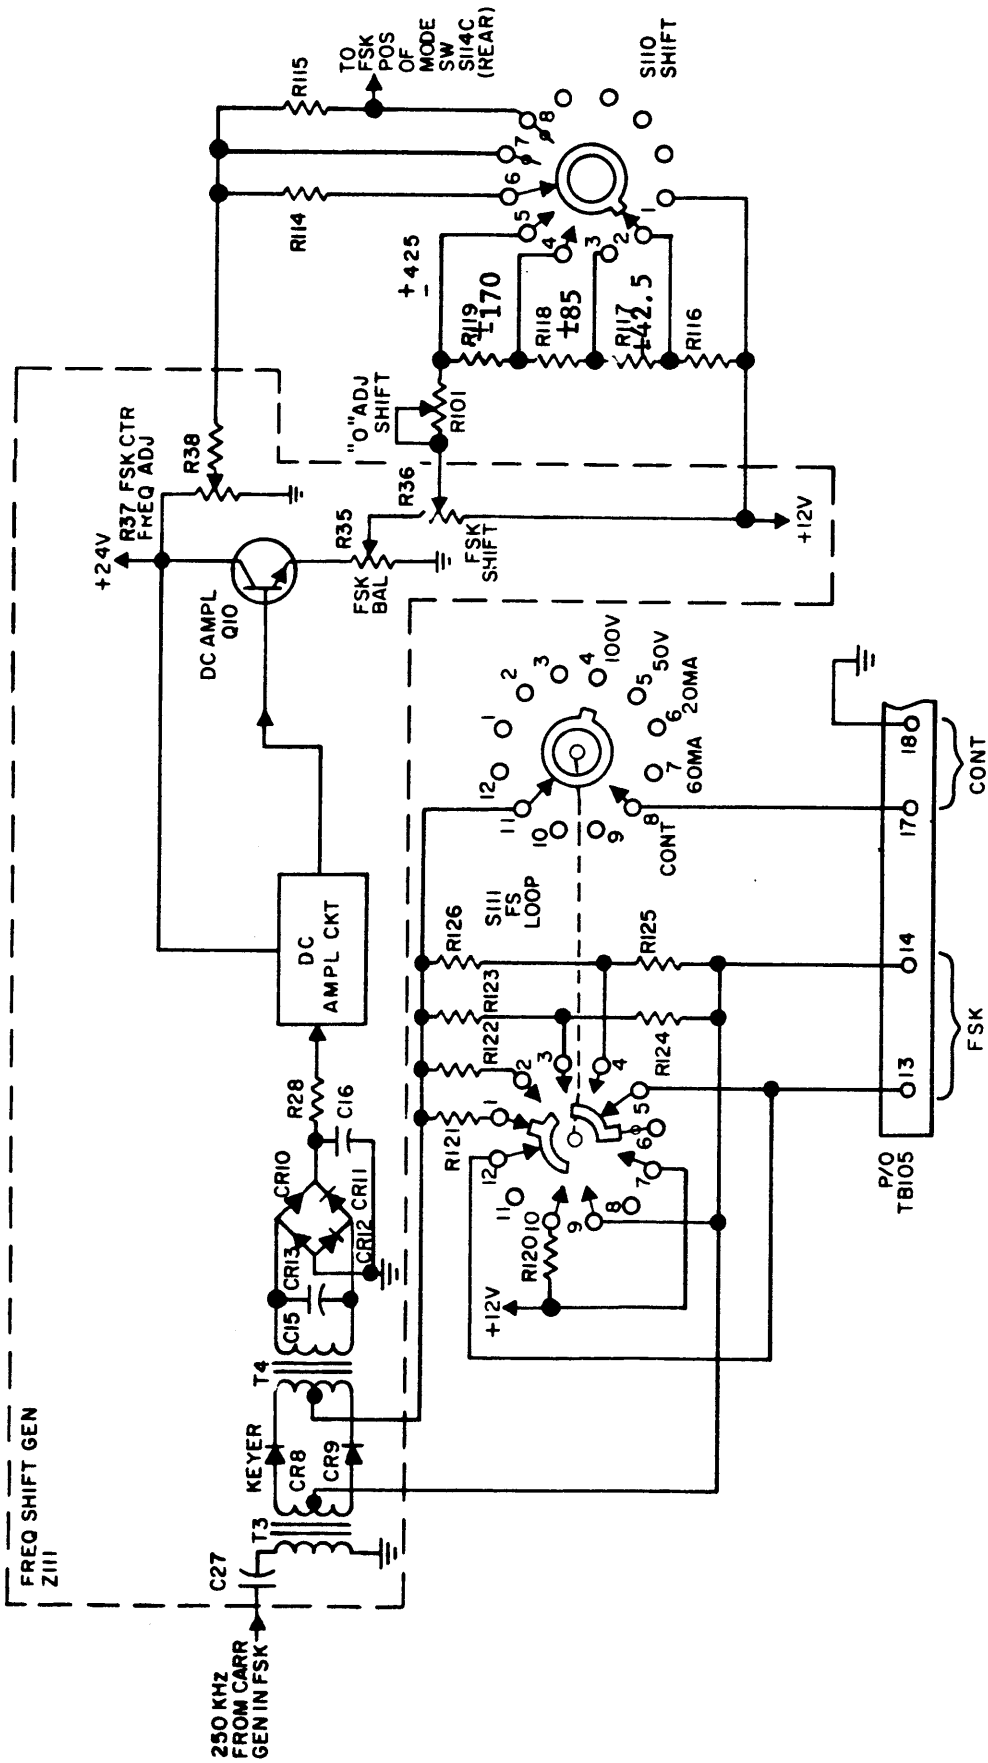

Figure 4-5. Frequency Shift Keyer Circuit, Simplified Schematic Diagram
h. FREQUENCY SHIFT GENERATOR Z111. (See figures 4-5 and 7-9.) The frequency shift keyer consists of four distinct sections; namely, the 3 MHz converter and VXCO buffer-amplifier, the FSK keyer and modulator, and the FAX circuit.
(1) The 3 MHz converter and VXCO buffer-amplifier circuit performs the function of translating a 250 kHz input signal to an rf output carrier at 3 MHz. The 250 kHz input can be an AM signal; USB and/or LSB intelligence with, or without, the 250 kHz subcarrier suppressed; or an interrupted 250 kHz input at an external keyed rate in the CW mode. In addition, in the FSK and FAX modes, a variable crystal controlled frequency of 3 MHz is supplied to the 3 MHz converter buffer-amplifier circuit for translation, while the 2.75 MHz carrier and 250 kHz inputs are not used. As discussed previously, when the MODE switch is in the AM, USB, LSB, ISB or CW positions, the 2.75 MHz channel in the carrier generator is enabled and supplies the 2.75 MHz carrier frequency to the converter channel of Z111. This input signal is amplified by 2.75 MHz input stage Q1 and fed to 2.75 MHz emitter follower Q2. The emitter output from Q2 is applied to balanced modulator Z1. In the AM position of MODE switch S114, the 250 kHz input consists simply of a
CR8/CR9. The keyer circuit is, in effect, a modulator, in that the 250 kHz input is interrupted by a dc current representing marks and spaces from an externally connected dry-contact keyer or teletype at terminals 13 and 14 of TB105. (See figure 4-5.) The keyer input is connected to the modulator through FS LOOP switch S111 which is set to the 100V or 50V positions when dry contact keying is used, and to the 20 mA or 60 mA positions to match the dc battery loop when a teletype keyed input is used. The external keying rate is 200 WPM and 75 bauds. By keying the 250 kHz subcarrier, a frequency shift above and below center frequency is obtained, corresponding to the marks and spaces of the teletype input. This signal is coupled through T4 to the full-wave bridge rectifier consisting of diodes CR10 through CR13; the resultant varying dc signal is then applied to a series of three dc amplifiers, Q7 through Q9, and an output emitter follower, Q10. (See figure 7-9.) Amplifier Q8 is inserted in the circuit when dc SENSE switch S109 is in the + position; otherwise, in the - position, Q8 is bypassed. This produces a respective positive or negative FSK output to establish FSK polarity (mark/space inversion). The variable output is developed across FSK balance potentiometer R35 and applied to FSK Shift potentiometer R36; the dc output is coupled to SHIFT switch S110. FSK Center frequency Adjust potentiometer R37 sets the average level about which the dc signal varies, and thus the center frequency of the VXCO in the power supply assembly. DC regulator Q5 provides a regulated 24 vdc to the dc amplifier circuit from the +24 vdc supply input line; regulator Q11 supplies a regulated +12 vdc to SHIFT switch S110 and R36 from the +12 vdc MODE switch input. SHIFT switch S110 effectively sets the amplitude of the dc signal varying about the average dc level as set by R37. By changing the maximum amplitude, the shift in VXCO output frequency is correspondingly changed to provide the desired shift above and below center frequency. The varying dc output from the SHIFT switch is coupled through the FSK position of MODE switch S114C and sent to 3 MHz VXCO Z302 in the power supply assembly.